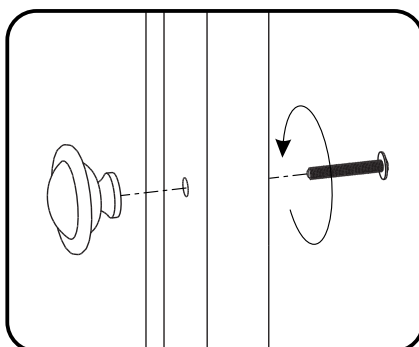

Figure 6
Attach Knobs to Doors (H) and (I) with Machine Screws. (See Figure 6)